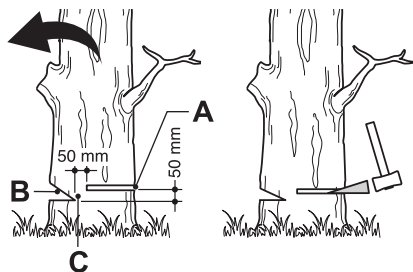

Fig. 29
Make the notch (Fig. 29, B) 1/3 the diameter of the tree, perpendicular to the
direction of falls (Fig. 29). Make the lower horizontal notching cut first. This will help to avoid pinching either the saw chain or the guide bar when the second notch is being made.
1. Make the felling back cut (Fig. 29, A) at least 50 mm higher than the horizontal notching cut (Fig. 29). Keep the felling back cut parallel to the horizontal notching cut. Make the felling back cut so enough wood is left to act as a hinge. The hinge wood (Fig. 29, C) keeps the tree from twisting and falling in the wrong direction. Do not cut through the hinge.